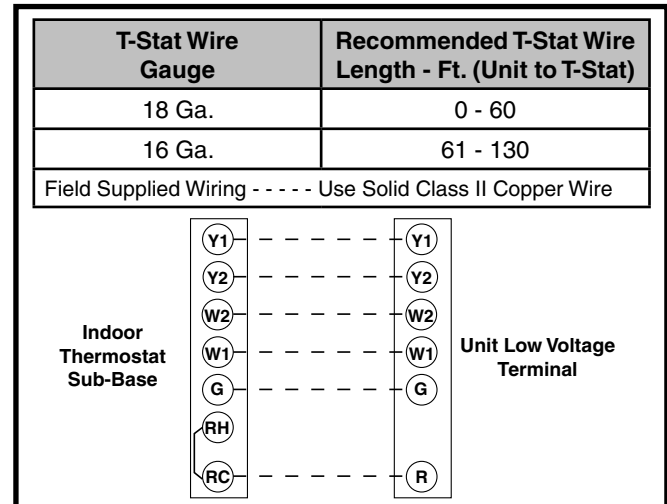

Figure 10. Typical 2 - Stage Heat/Cool Thermostat Connection
- A two-stage heating/cooling thermostat is required for R6GN series units. Select a thermostat which operates in conjunction with the installed accessories. The thermostat should be mounted about 5 feet above the floor on an inside wall. See Figure 10 for proper wire gauge and their recommended lengths for typical thermostat connections.
- The low voltage wires must be properly connected to the units low voltage terminal block. Route 24V control wires through the gas furnace side of the unit. Recommended wire gauge and wire lengths for typical thermostat connections are shown in Figure 10.